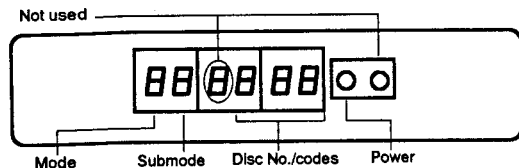

Fig.1 Display section
- Service mode have other mode besides Fig. 1, do not oprates the other mode because of it used for checking.